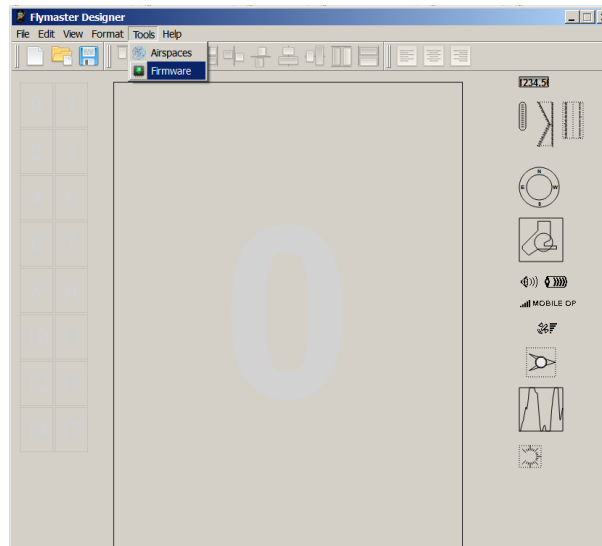

Figure 9.1: Firmware Menu Option
2. Select Tools->Firmware (see Figure 9.1);